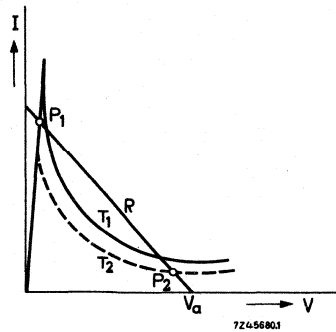

Fig.8.
- (3) the load resistance decreases (Fig. 8).